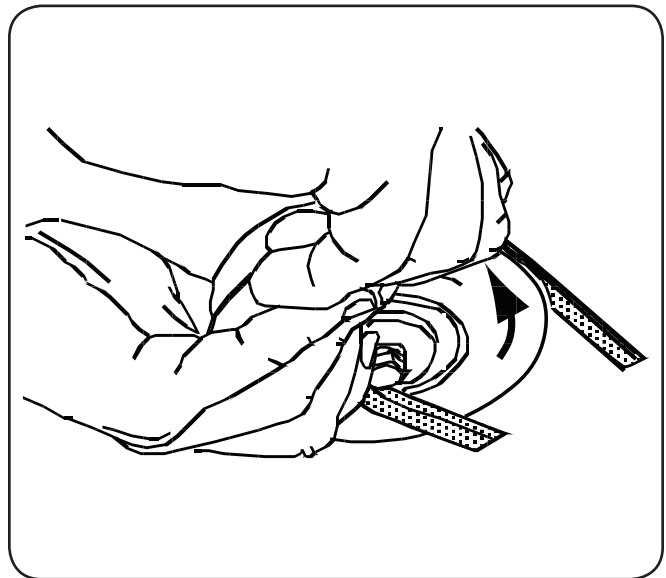

Figure 7-11
9. Pull the right side of the belt and place the narrow V side of the belt into the PTO pulley. See Figure 7-11.